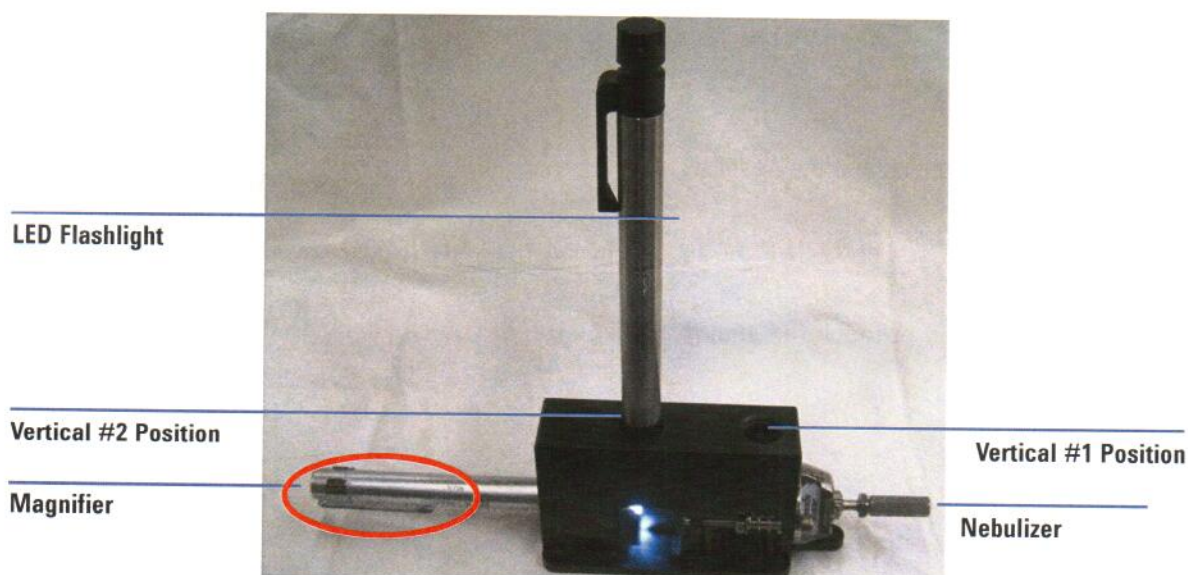

Figure 1 Setup to inspect the end of the nebulizer. Pocket clip of the **40× Magnifier** is circled.
- 2 To inspect the *end* of the nebulizer for poor needle centering, plugged needles, or nozzle damage (**Figure 1**):